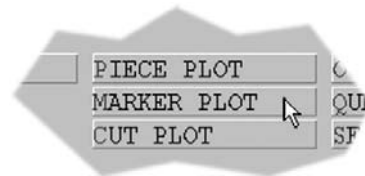

Figure 10. Accumark™ Marker Plot button.
4. Press the **Marker Plot** button to open the marker plot export utility. (Figure 10.)